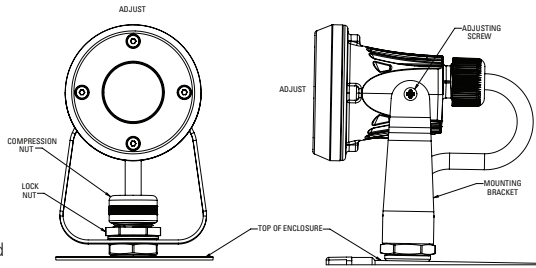

Figure 3
- a. Loosen (do not remove) the two (2) vertical adjustment screws on both sides of the lamp head bracket. Adjust the lamp head to the desired position and re-tighten the two (2) screws. Torque the screws to 20 in.-lbs. minimum. Perform this vertical orientation adjustment on both lamp heads before moving on to step (b) below.
- b. Loosen (do not remove) the gland nut and locknut at the mounting bracket center (see Figure 3). Adjust the lamp head to the desired horizontal position and re-tighten both the gland nut and locknut. Torque the gland nut to 10-15 ft.-lbs. using a soft-jawed wrench to prevent damage or stripping of the corrosion protective paint. Perform this horizontal orientation adjustment on both lamp head assemblies.